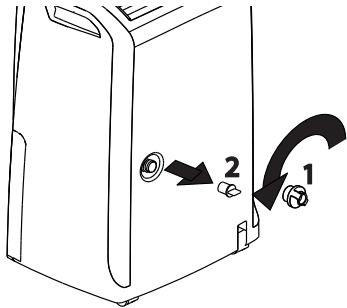

fig. 2
- 1) Remove the continuous drain cap **1** by turning it counterclockwise then remove the rubber stopper **2** from the spout (fig. 2).
**Note:** Some leakages from the spout could happen when removing the rubber stopper **2** (fig. 2).